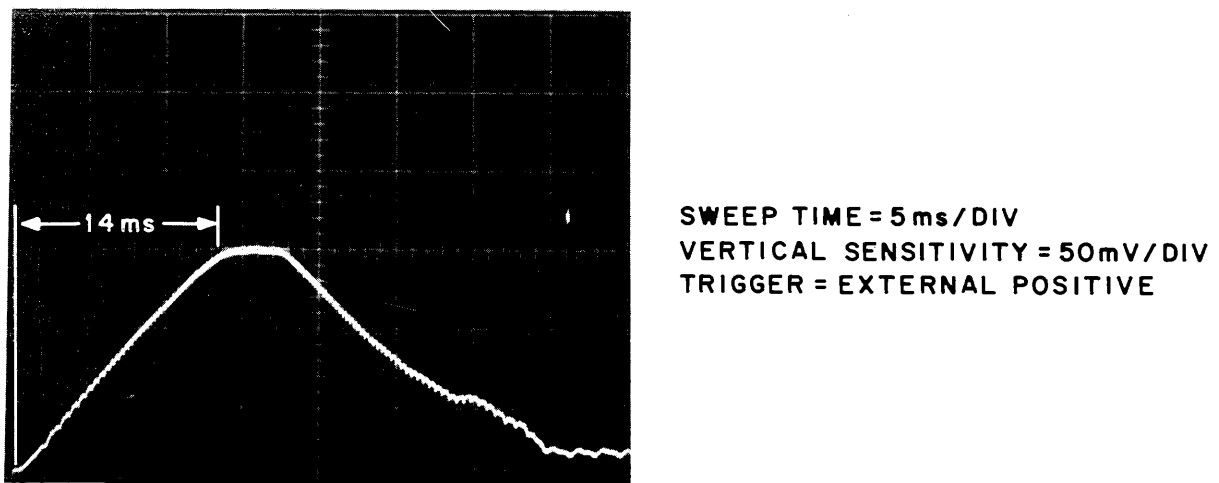

Figure 5-9 64-Cylinder Seek Waveform
20. Monitor pin A5-H1 and ensure that the displayed signal has a rise time of  $14 \pm 1$  ms (Figure 5-9). If not, adjust the circular potentiometer on the H604 card to obtain the proper rise time.